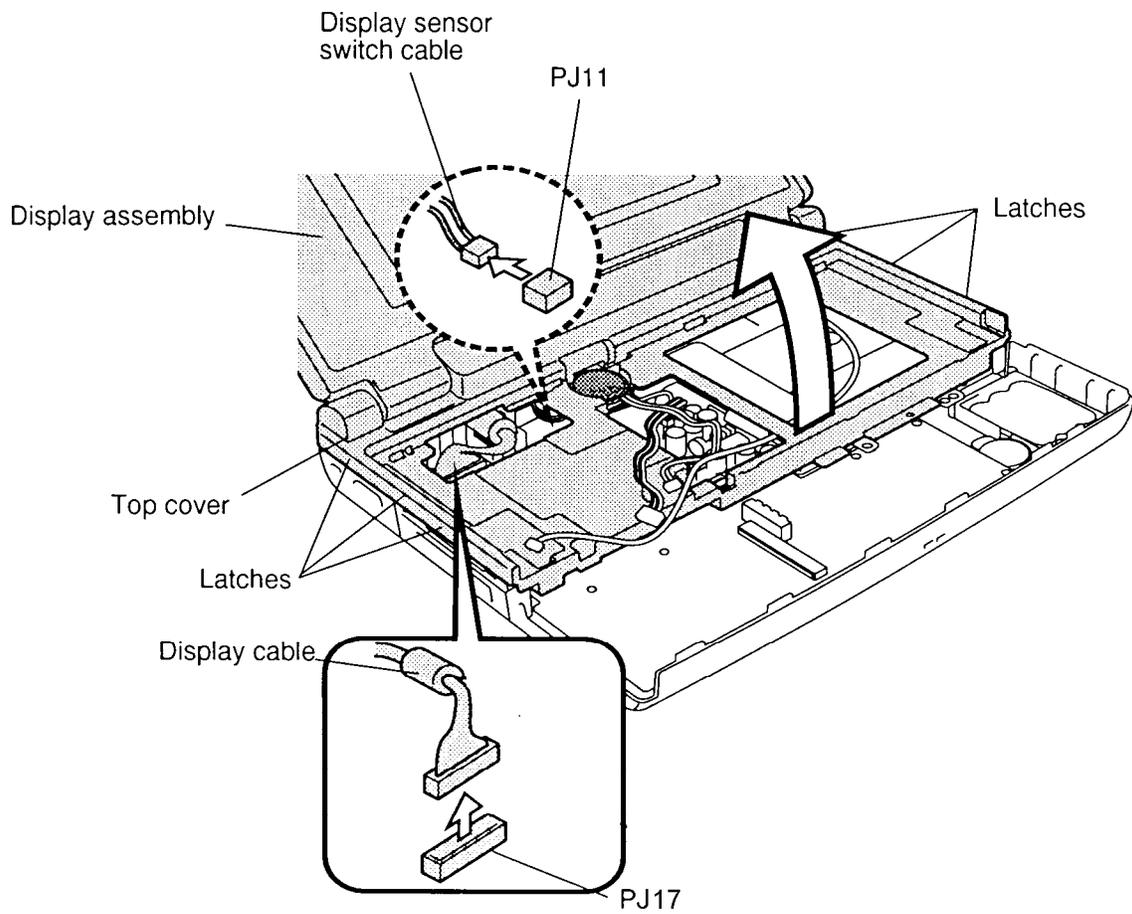

Figure 4-17 Removing the top cover & display assembly
8. Unsnap the six **latches** securing the **top cover** to the base assembly (figure 4-17).
9. Disconnect the **display sensor switch cable** from **PJ11** on the system board (figure 4-17).
10. Disconnect the **display cable** from **PJ17** on the system board (figure 4-17).
12. Lift the **top cover with display assembly** straight up out of the bottom unit (figure 4-17).
1. Seat the **top cover** with **display assembly** (figure 4-17).
2. Connect the **display sensor switch cable** to **PJ11** on the system board (figure 4-17).
3. Connect the **display cable** to **PJ17** on the system board (figure 4-17).
4. Begin at the back and snap the **top cover** into place (figure 4-17).